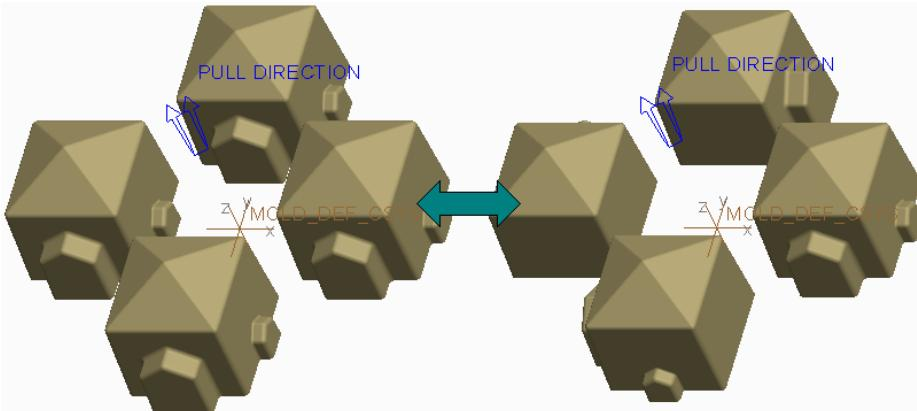

Figure 2 – Circular Layout, Constant versus Radial Orientation
The following Orientation options are available for the Circular cavity layout: Constant – Cavities are arranged to all point in the same direction, as shown in the left image of Figure 2.
- Radial – Cavities are fanned about the mold model's origin. That is, the cavities are arranged so that they appear in the same orientation when looking out radially from the mold model origin. Radial orientation is shown in the right image of Figure 2.